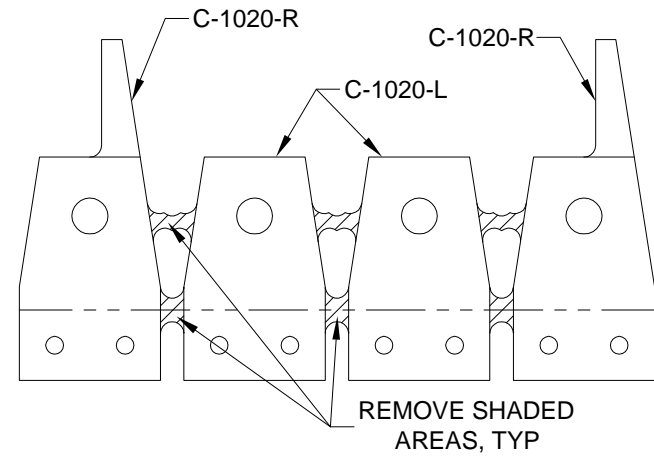

FIGURE 1: CUT APART LATCH ATTACH ANGLE
Step 1: Cut-apart the C-1020 Latch Attach Angle into two C-1020-L Latch Attach Angles and two C-1020-R Latch Attach Angles as shown in Figure 1.